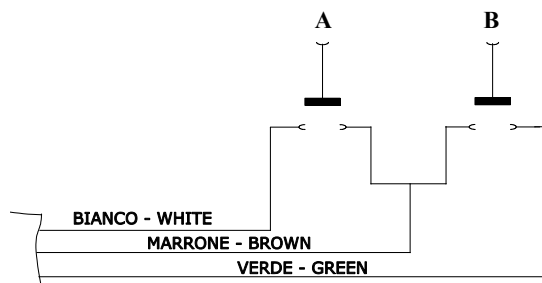

Fig. 2
The connection of the remote cables must be done according with fig. 2.
To switch the lamp on or off, press and release the button marked "A" (fig 2).
c) to reach the minimum light intensity immediately, press the button marked "B" (fig 2). When the minimum intensity is reached an acoustic signal will be heard (1 beep). Press the button again to restore previously selected light intensity.